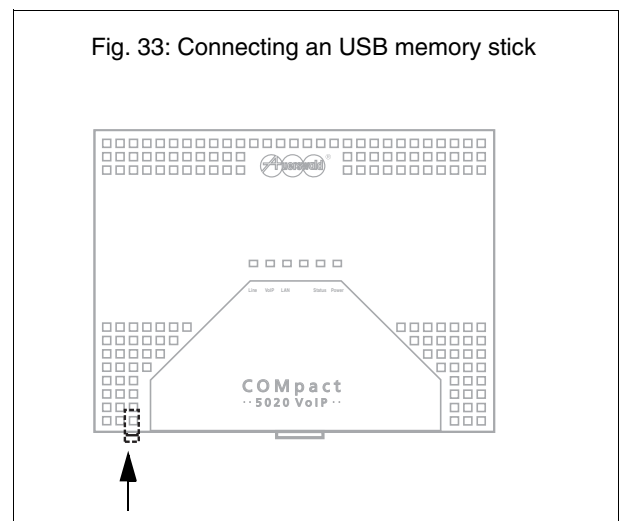

Fig. 33: Connecting an USB memory stick
1. Insert the flat connector on the USB memory stick into the USB socket on the PBX. See Fig. 33.